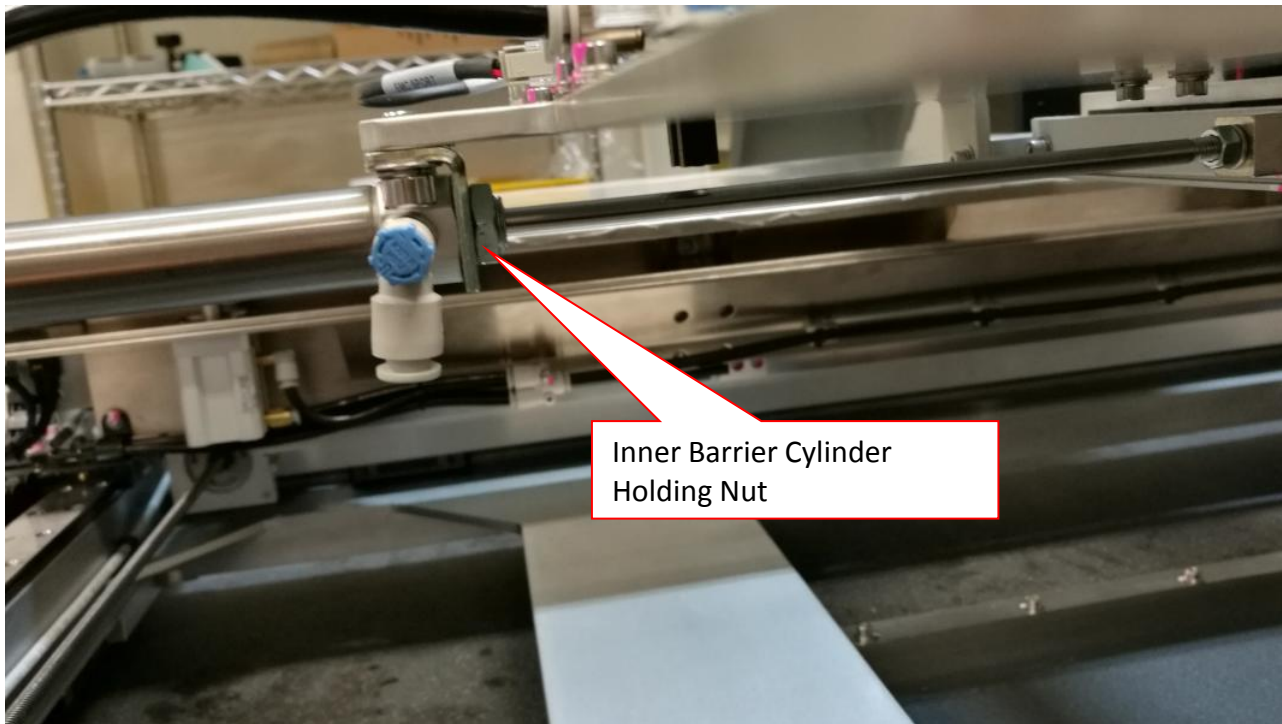

Figure 11 Inner barrier cylinder nut assembly
20. Assemble Inner Barrier Cylinder. Tighten up Inner Barrier Cylinder Holding Nut. as shown in Figure 11